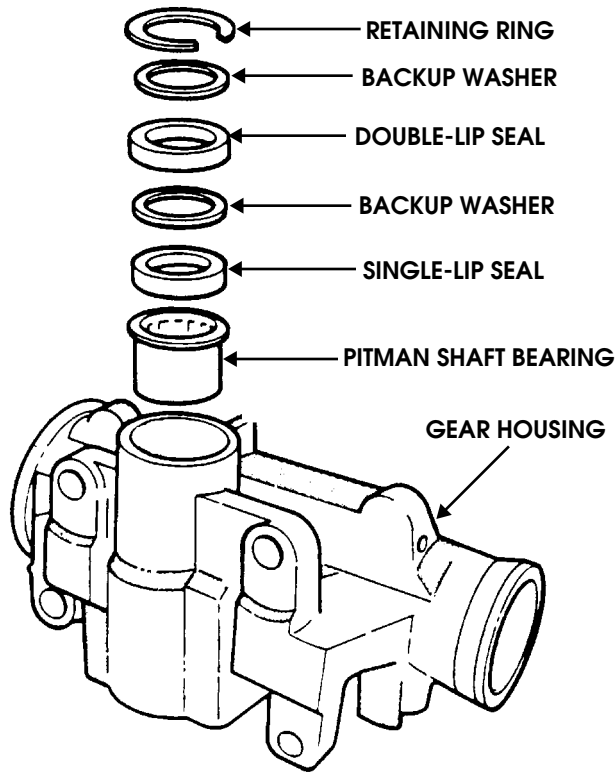

Figure 8-45: Pitman Shaft Bearing and Seal Position
2. Remove first backup washer (Figure 8-45).